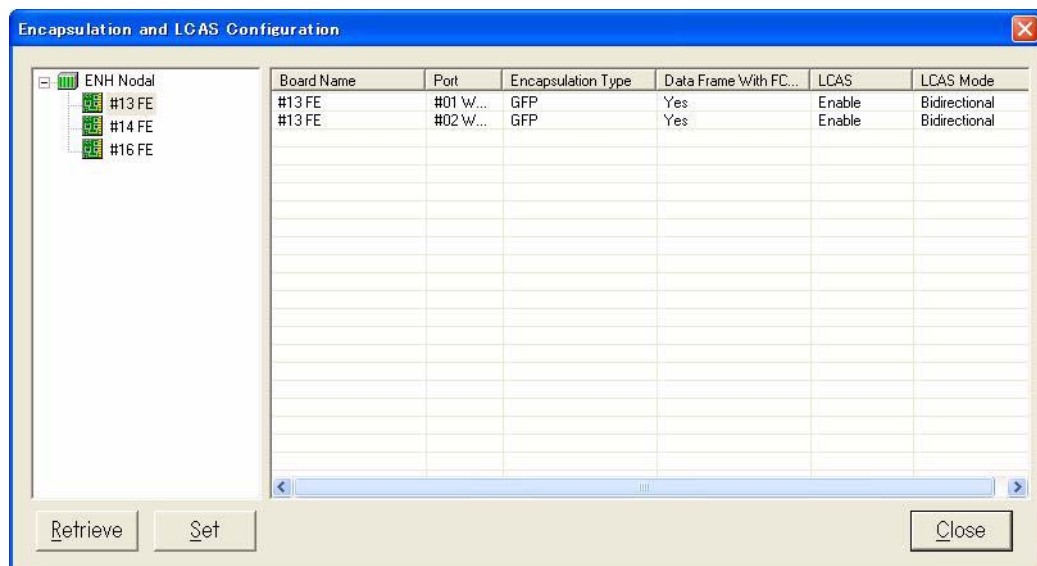

Fig. 4-4-76 Encapsulation and LCAS Configuration Dialog Box (1)
- 3 Select **Encapsulation and LCAS Configuration** from the **LAN-Interface** menu to open the **Encapsulation and LCAS Configuration** dialog box. The **Encapsulation and LCAS Configuration** dialog box shown in *Fig. 4-4-76* appears: